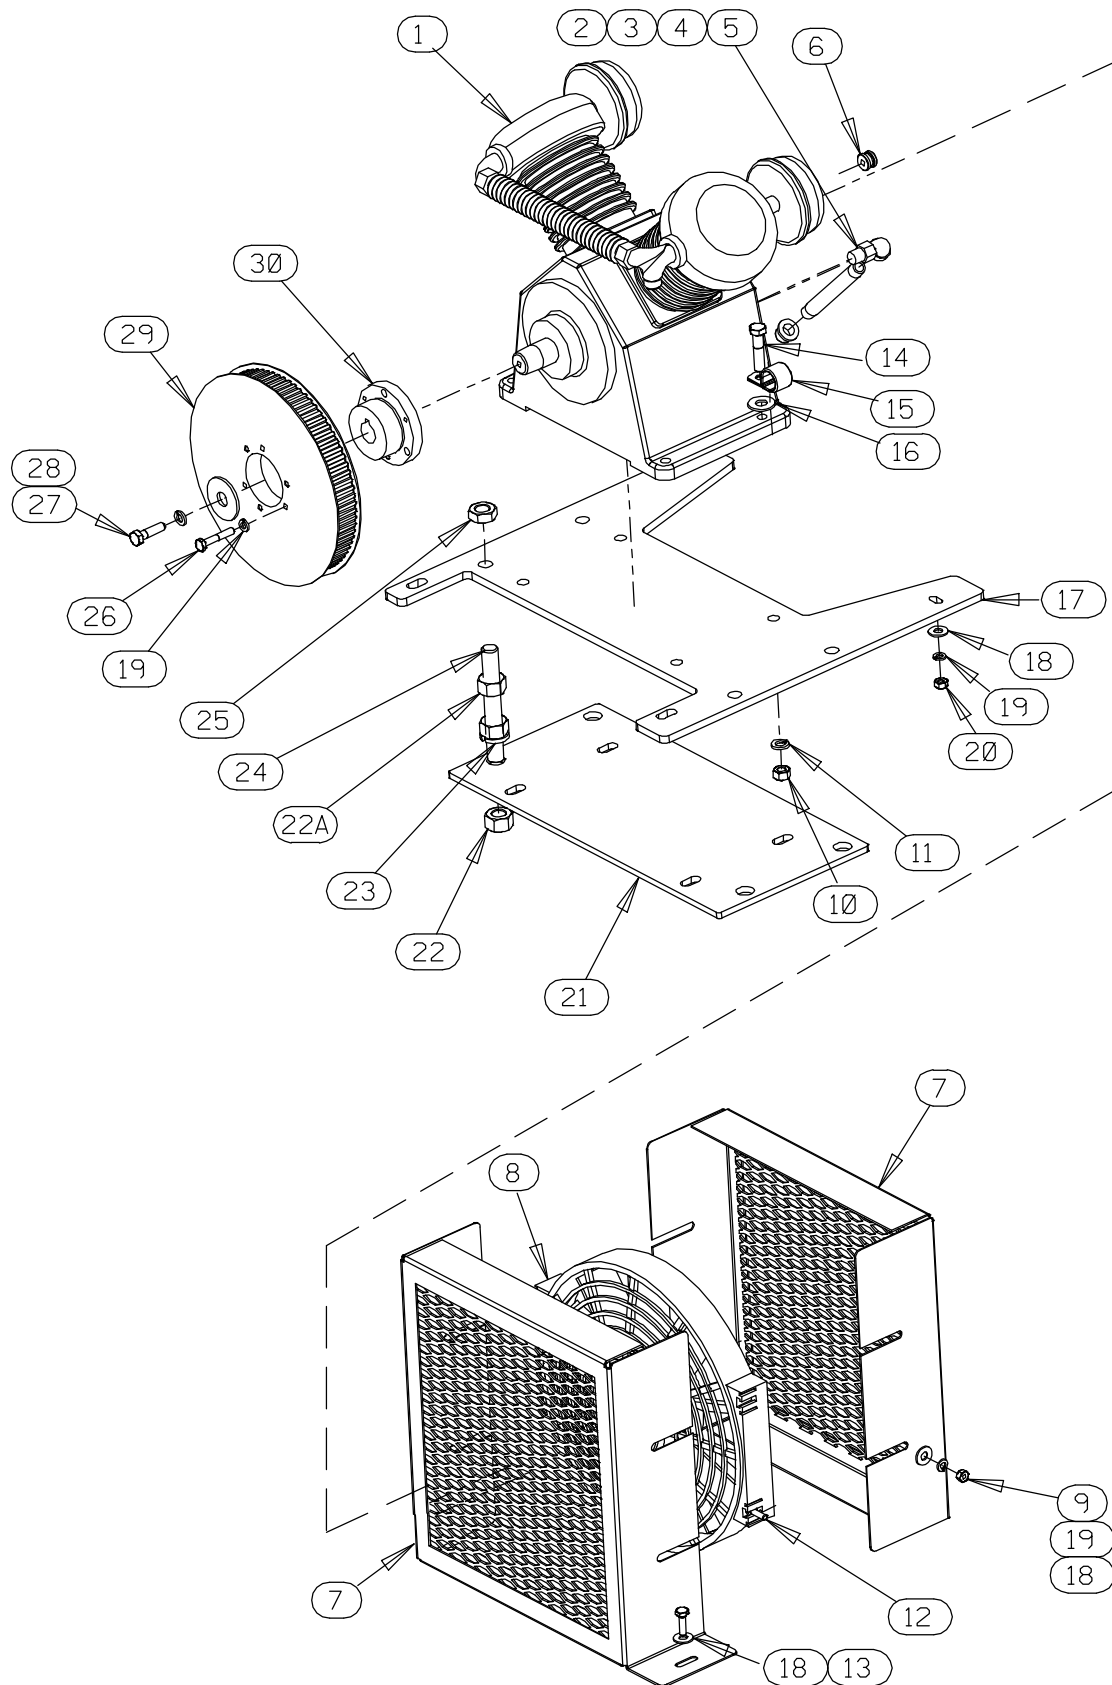

Figure 12. Air Compressor Assembly
See Figure 12 and loosen the nuts (22A) on the threaded rods (24) enough to be able to remove the belt (12, Figure 5) from the sprocket (29).
Remove the hardware (9, 10 and 13) securing the mounting plate (21, Figure 12) to the rotating assembly mounting flange (20, Figure 7).